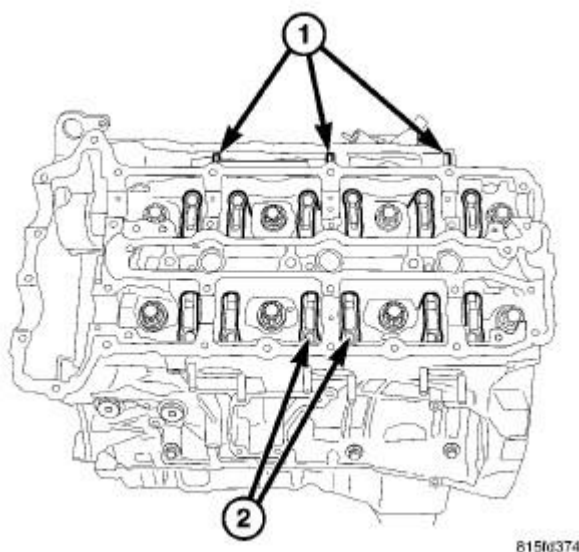

Fig. 129: TAPPET/CAMSHAFT FOLLOWER POSITION
- a. Tighten M12 cylinder head bolts 1 through 8 in the sequence shown in **Fig. 129** to 60 N.m (44 ft. lbs.).
- c. Tighten M12 cylinder head bolts 1 through 8 in the sequence shown in **Fig. 129** an additional 90°.
- e. Once again, tighten M12 cylinder head bolts 1 through 8, in the sequence shown in **Fig. 129** an additional 90°.
6. Install the followers and tappets (2) into their original position as noted during removal.